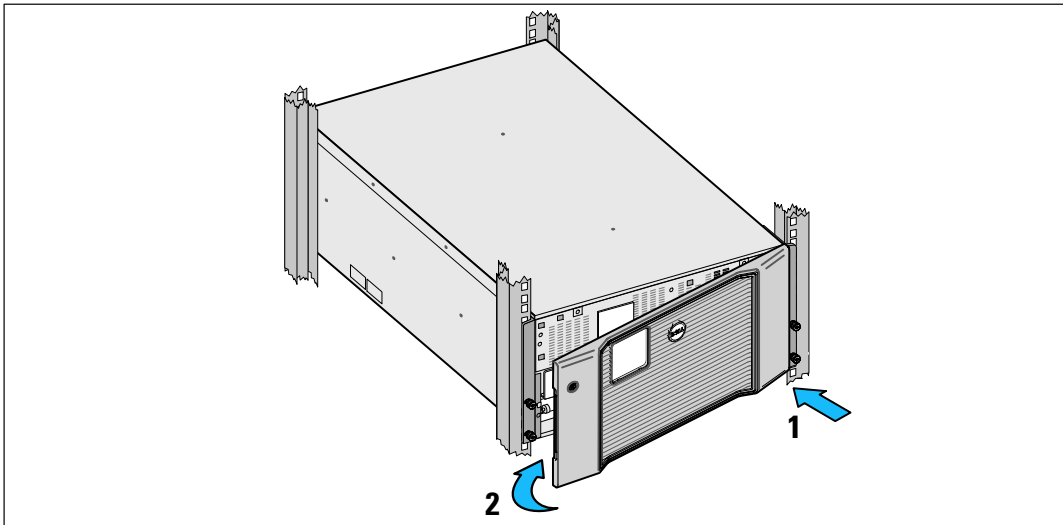

Figure 17. Installing the Front Cover
- 14 Install the front cover (see Figure 17):